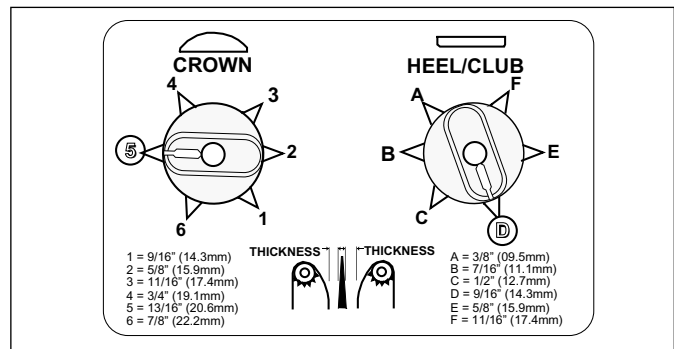

Figure 12. Bun Thickness Adjustment Controls
2. Remove the Bun Feeder, Bun Chute, and change the compression knob settings to "F & 6" (Figure 12).